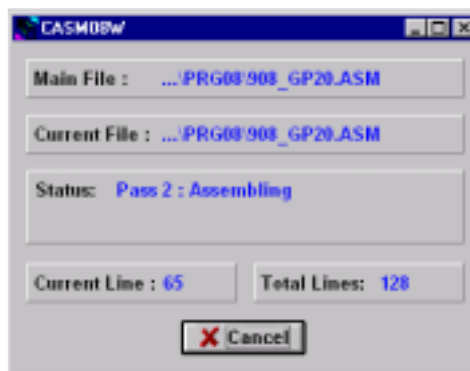

Figure 11-1. CASM08W Window
- d. The CASM08W window displays during assembly, showing the files and progress of the assembler in the **Status** area. When assembly completes successfully, the assembler window appears like the one shown in **Figure 11-1**.